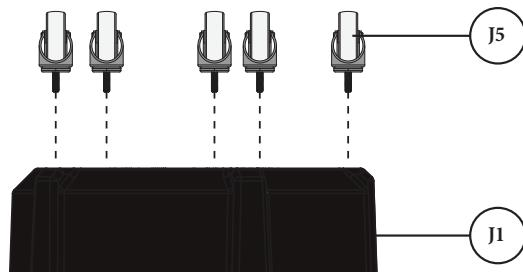

FIG. 28
- 28** Take each of the five Casters (J5) and thread them into the holes located underneath the Drum (J1) [FIG. 28].